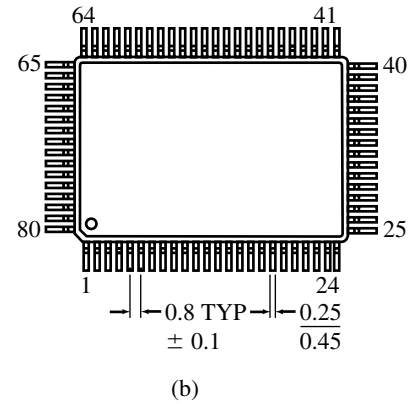

FIGURE 1-10
48. The large black plastic component soldered onto the printed circuit board of Figure 1-10(a) is an electronic device known as an *integrated circuit*. As indicated in (b), the center-to-center spacing of its leads (commonly called pins) is 0.8 ± 0.1 mm. Pin diameters can vary from 0.25 to 0.45 mm. Considering these uncertainties,